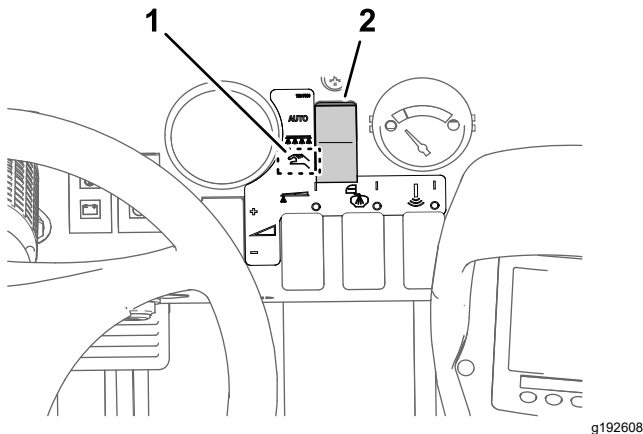

Figure 42
2. Set the sprayer mode button to the Manual Mode (Figure 42).